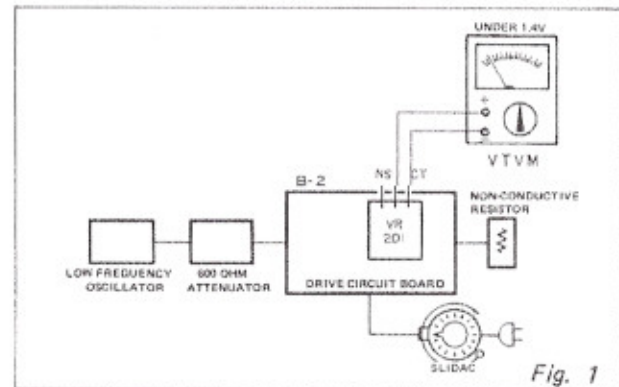

Fig. 1
- (1) Connect as shown in Figure 1 and, prior to turning on the power switch, turn drive circuit board BIAS VR (VR102) fully counter-clock-wise.
- (2) With no signal input, connect a VTVM between terminals NS and CT of the left and right channel drive circuit boards.
- (3) Turn amplifier power supply ON with the slidac in 0V position and adjust slidac to rated voltage (100V) while observing the VTVM connected to the left and right channels does not exceed 1.4V.